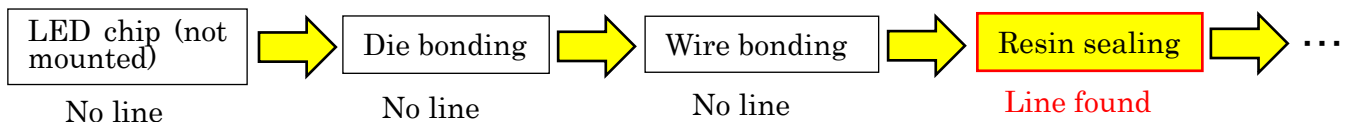

Figure 5. Investigation for the affected process at the component manufacturer
- (5) We investigated LED chips and each process of the manufacturing process at the component manufacturer. The lines were confirmed to have occurred in the resin sealing process (Figure 5). From this result, we consider that stresses from the resins caused the lines.